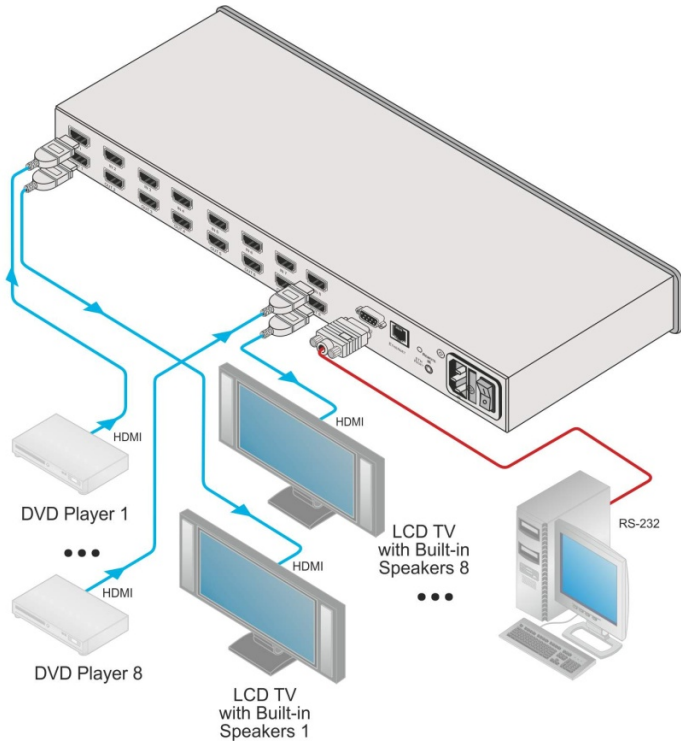

Figure 3: Connecting the VS-88HN 8x8 HDMI Matrix Switcher
To connect the VS-88HN 8x8 HDMI Matrix Switcher as illustrated in the example in Figure 3:
4. Connect the device to the mains electricity (not shown in Figure 3).